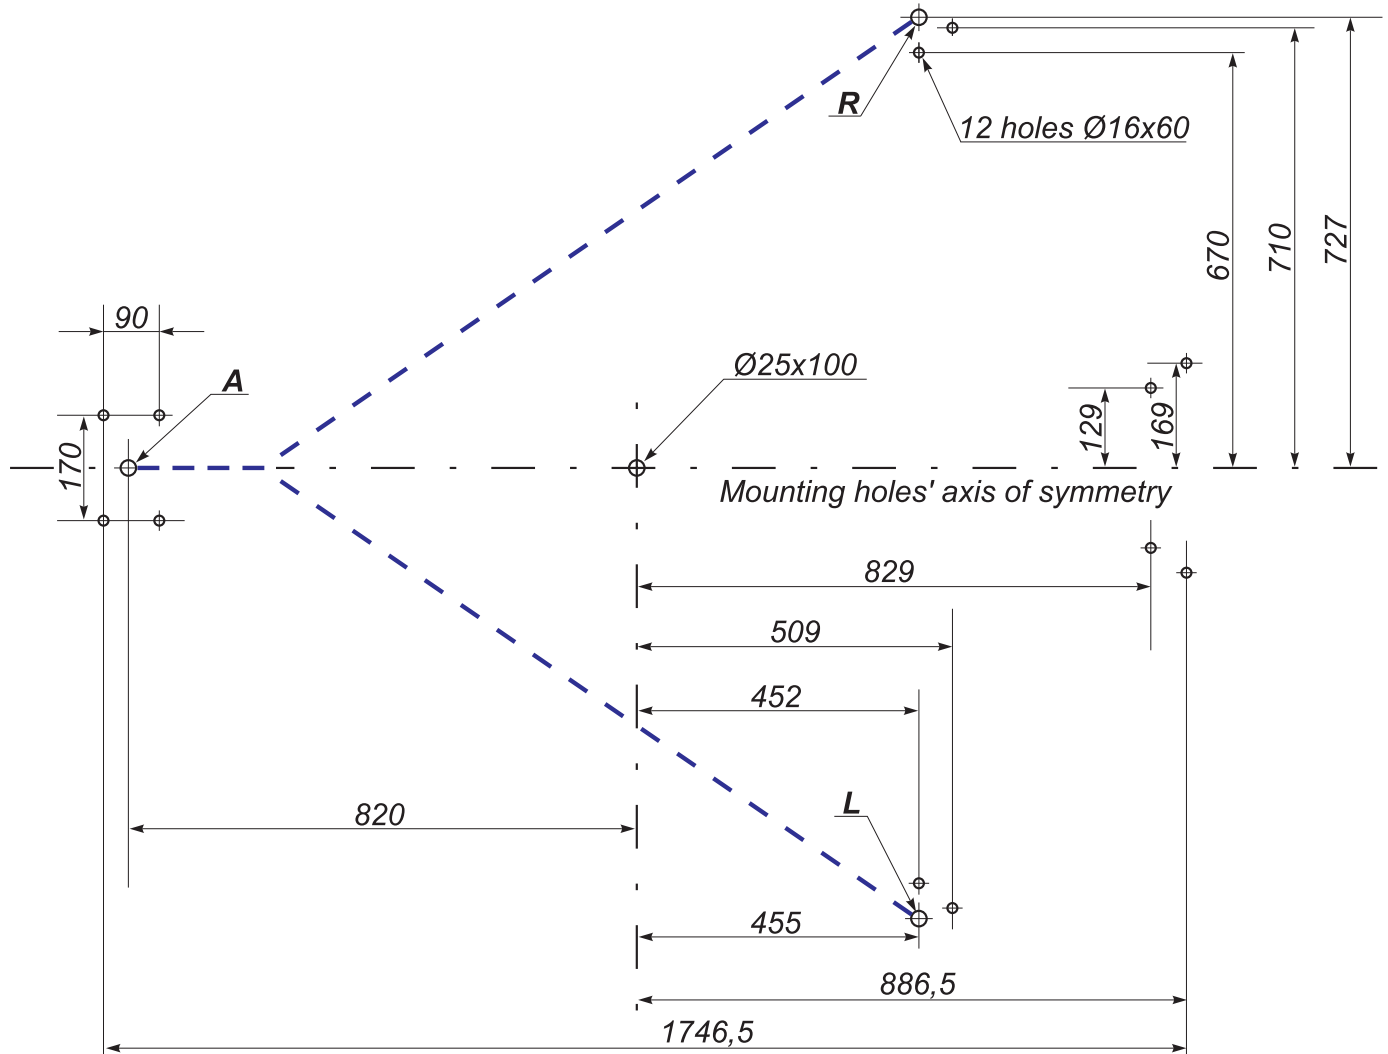

Fig. 8. Mounting hole pattern:
8.2.2 Recommendations how to prepare mounting holes in the foundation (the mounting surface) are given with regard to anchor bolts for solid concrete floors or similar foundations (sect. 4.2.3, 8.1.2, Table 6 and Fig.8). Use relevant mounting hardware for installation on different foundations.
8.2.3 Mark out on the mounting surface mounting holes for the turnstile installation and electric raceways for the indication cables (10), (11) and the reader cables* (23), (24) according to Fig. 8.
8.2.6 Erect the left guide barrier section (6) so that the supporting post with the LED indicator (9) is above the L exit (Fig. 8). Coincide the four flange (8) holes of the section with the holes in the mounting surface. Anchor the section but not tightly, so that you can make the vertical adjustment. Run the indication cable (10) and the reader cable (23)* through the electric raceway to the A entrance.
8.2.7 Erect and anchor the right guide barrier section (7) so that the supporting post with the LED indicator is above the R exit (Fig. 8). Run the indication cable (11) and the reader cable (24)* through the electric raceway to the entrance A.
8.2.10 Erect the barrier section so that the flange (4) is on the A entrance, the bottom rotation unit (5) is on the Ø25 mm hole (Fig. 8). Coincide the four flange holes and the hole in the center of the bottom rotation unit with holes in the mounting surface. Anchor the barrier section but not tightly, so that you can make the vertical adjustment.
8.2.22 Keeping a moderate slop, set the lower end of the assembled rotor (1) (sect. 8.2.18) into the bottom rotation unit (5) in the reset state according to either A or B position of the barrier wings in the reset state (sect. 5.2.11).
To position the rotor for operation in the **standard operating modes** (the A reset state), close the passageway by one barrier wing placing it in parallel with the mounting holes' axis of symmetry (Fig. 8) in the direction of the guide barrier sections (6) and (7) joint (Fig. 1 and 12a).